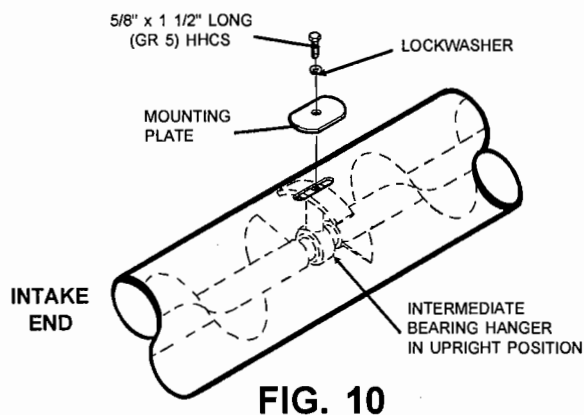
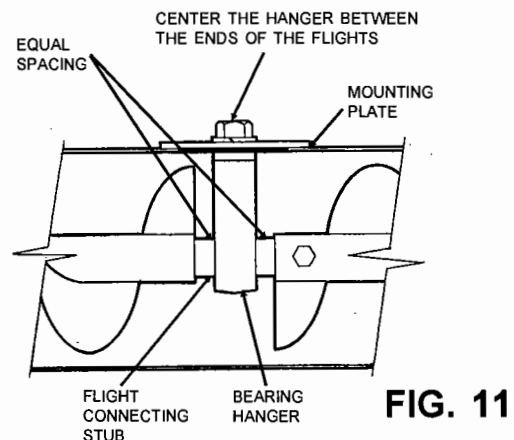

FIG. 10
FIG. 11
- C. Attach each bearing hanger to the auger housing using a mounting plate, a 5/8" x 1 1/2" long (grade 5) hex head capscrew and lockwasher as seen in Fig. 10. Before tightening the mounting bolts, adjust the bearing hangers so they are centered between the ends of the auger flights. (See Fig. 11.) This can be done by sliding the hanger back and forth in the slot to determine the approximate center.